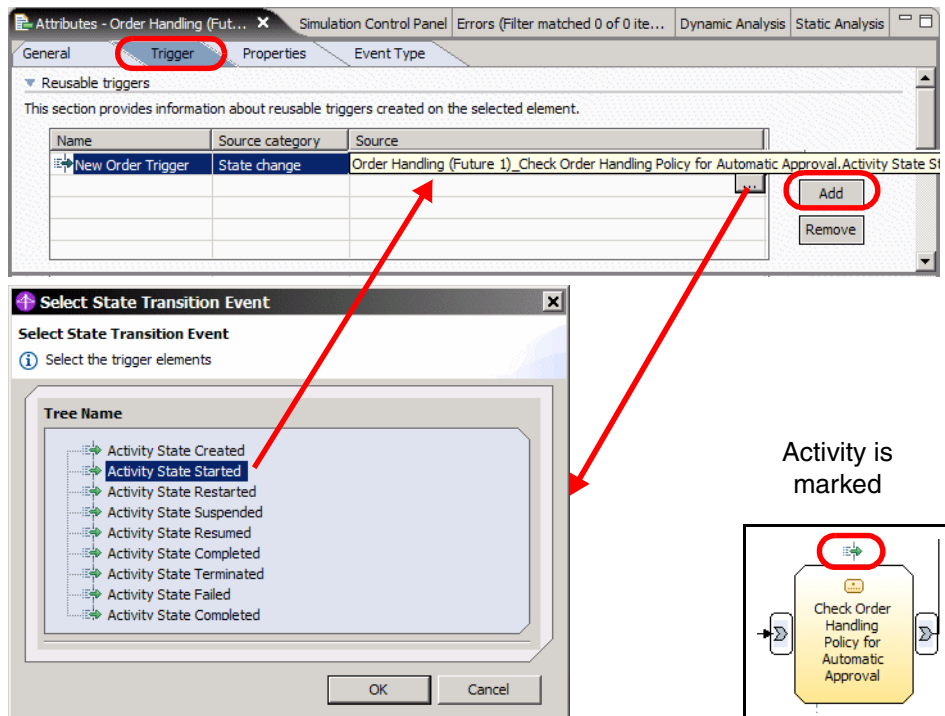

Figure 8-11 Creating a trigger (New Order Trigger)
- ▶ Select the *Trigger* tab (Figure 8-11).